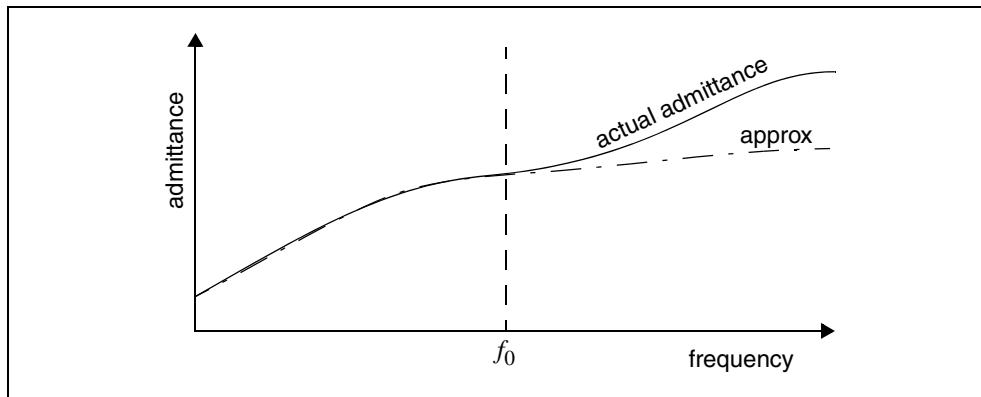

Figure 103 Multiport Admittance vs. Frequency
- The amount of reduction depends on the f_0 upper frequency, the threshold frequency where `SIM_LA` preserves the admittance (Figure 103).